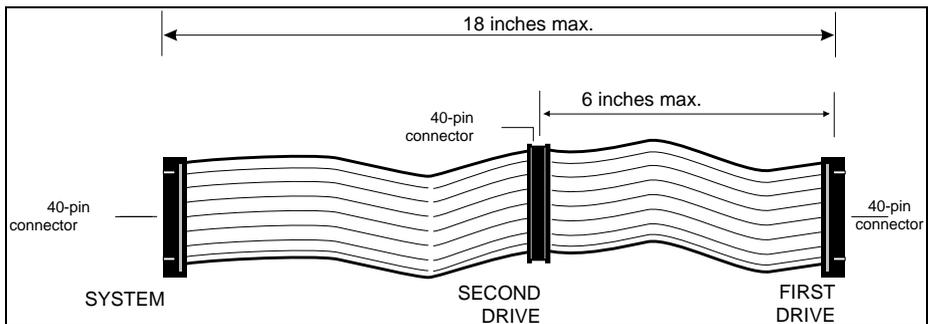

Figure 5-4. IDE Cable Connectors
Caution: You may damage the Caviar drive if the interface cable is not connected properly. To prevent incorrect connection, use a cable that has keyed connectors at both the drive and host ends. Refer to Figure 5-4 which shows pin 20 as the key. Pin 20 has been removed from the J2 connector. The female connector on the interface cable should have a plug in position 20 to prevent incorrect connection. Make sure that pin 1 on the cable is connected to pin 1 on the connectors.
1. Attach the end of the 40-pin interface cable to the 40-pin J2 connector on the back of the Caviar hard drive as shown in Figure 5-4 and 5-5. For dual installations, connect the two drives together by using a three-connector interface cable. Match the orientation of pin socket 1 on the 40-pin IDE cable to pin 1 on the connector.
4. Attach the computer's power supply cable to the 4-pin power connector J3 on the back of the Caviar drive (see Figure 5-4 and 5-5). The 4-pin connector is keyed to ensure proper insertion.